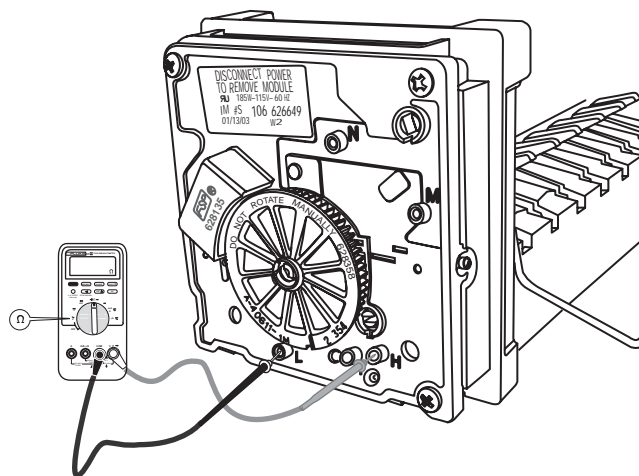

Figure 57. Checking mold heater resistance
3. Set multimeter to Ohm scale, then connect probes to test points L and H. Test probe tips must be 1/2 inch long to make full contact with internal terminals. See Figure 57.